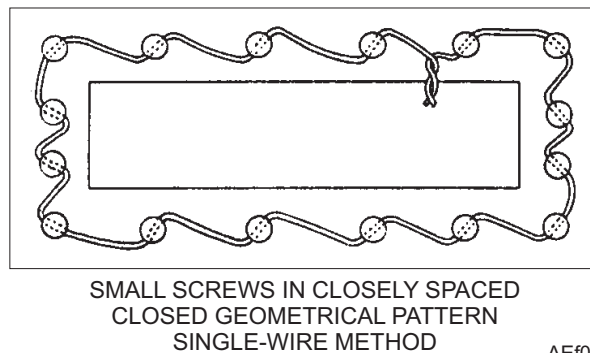

Figure 5-30.—Single-wire method of safety wiring.
**SINGLE-WIRE METHOD.**—You may use the *single-wire method* of safety wiring (fig. 5-30) on small screws in a closely spaced area provided the screws form a closed geometrical pattern. Note that any loosening tendencies will pull against the tension of the wire.